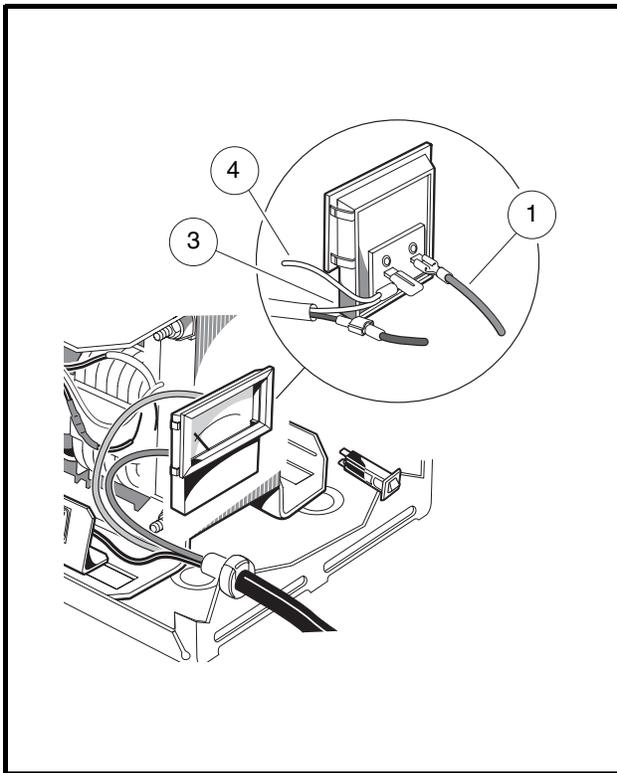

Figure 5-20 Ammeter
3. Disconnect the DC cord red wire (1) and the white wires (3 and 4) from the ammeter (**Figure 5-20, Page 5-27**).
1. Place the ammeter in position in the charger face and ensure that the locking tabs are secure (**Figure 5-20, Page 5-27**).
2. Connect the DC cord red wire (1) and the white wire (3) to the ammeter terminals.
3. Disconnect the white wires (3 and 4) from the ammeter (**Figure 5-20, Page 5-27**).